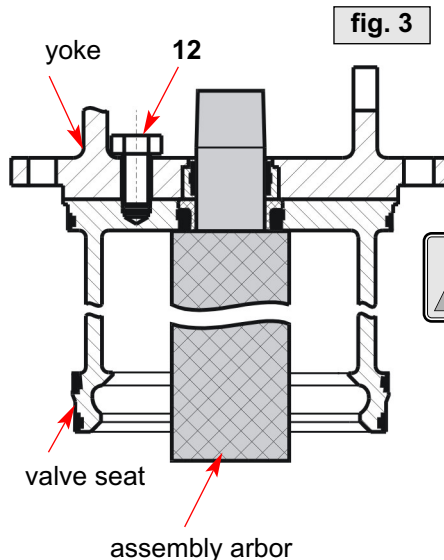

fig. 3
- d. Press the valve seat (10) against the yoke (16) and fix the assembly with the hex. screw (12). Position the valve seat with the assembly arbor (see fig. 3). Tighten the hex. screw (12).
- e. Install the upper seat seal (7) in the upper valve shaft (6) according to service instructions (see 13.).
- f. Carefully knock the upper valve shaft (6) with a rubber mallet through the guide bush. Place the operating cam (13). Press the upper valve shaft into the valve seat until it stops.
- g. Push in the guide rod (8) with the threaded part ahead from the top through the actuator (31), through the operating cam (13) and through the yoke (16) until it stops.